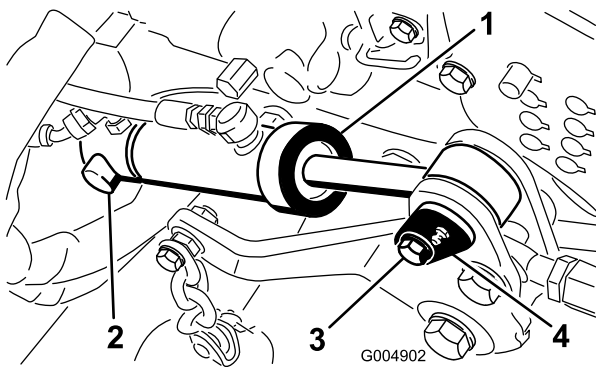
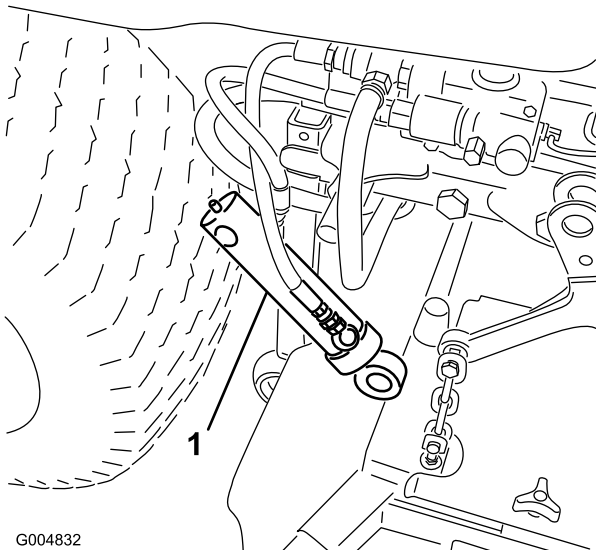

Figure 37
Figure 38
- Remove the retaining ring securing the rear of the deck lift cylinder to the pivot pin (Figure 37).
8. Remove the screw securing the front cylinder pivot pin to the mower frame (Figure 37). Remove the cable tie securing the pressure and tank hoses.
9. Remove the front pivot pin and slide the cylinder off the rear pin Figure 37 Let the cylinder hang out of the way on the hoses (Figure 38).